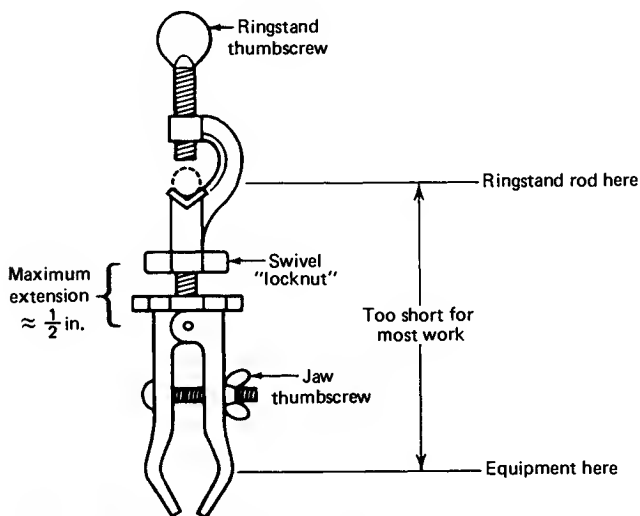

Fig. 65 The "barely adequate for organic lab" buret clamp.
1. **The simple buret clamp** (Fig. 65). Though popular in other chem labs, the simple buret clamp just doesn't cut it for organic lab. The clamp is too short, and adjusting angles with the "locknut" (by loosening the locknut, swiveling the clamp jaws to the correct angle and tightening the locknut against the *back stop*, away from the jaws) is not a great deal of fun. If you're not careful, the jaws will slip right around and all the chemicals in your flask will fall out.